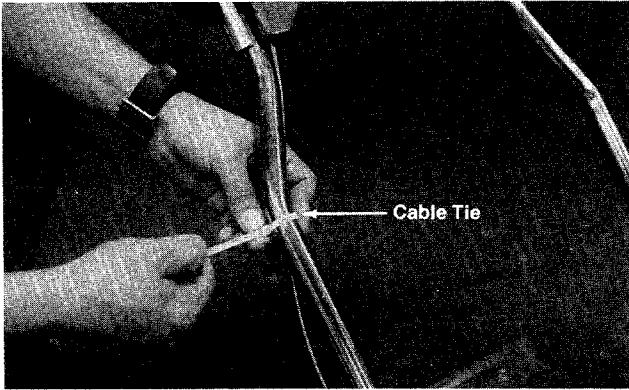

FIGURE 5.
8. Use the cable ties to fasten the throttle control wire to the lower handle. Cut off excess ends. See figures 5 and 6.